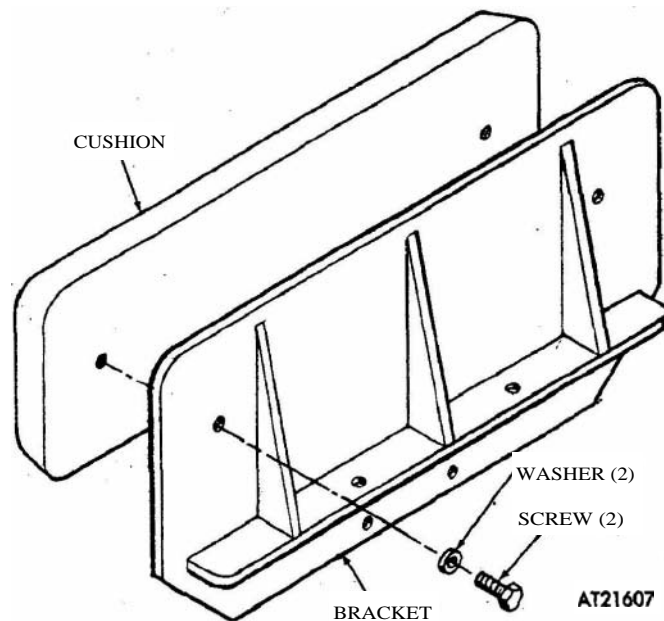

Figure 3-234. Ambulance carrier head pad assembly, exploded view.
- (2) Weld cracks (refer to TM 9-237).
- b. *Disassembly.* Disconnect cushion (fig 3-234) from bracket by **removing screws and washers.**
(1) Repair defective cushion (refer to TM 10-269)-
(2) Weld cracks in bracket (refer to TM 9-2371.
f. *Assembly.* Secure cushion (fig 3-234) to bracket with screws and washers.